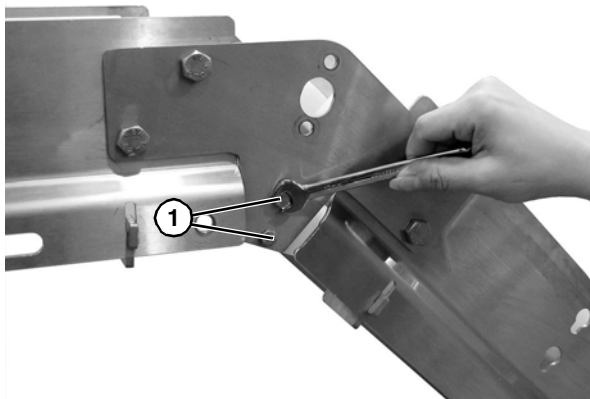
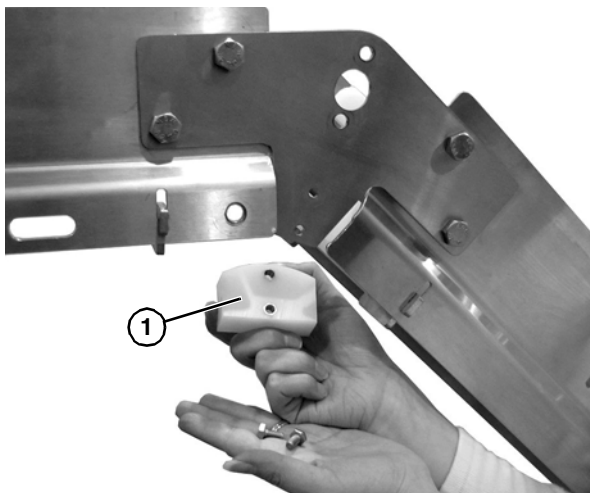

Figure 75
Figure 76
- Remove two cap screws (**Figure 75, item 1**) and inner belt return guide (**Figure 76, item 1**). Repeat on opposite side of the conveyor.